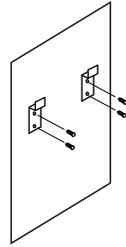

Fig 5
3. Attach the brackets to the wall using the plugs and screws provided (Fig 5).